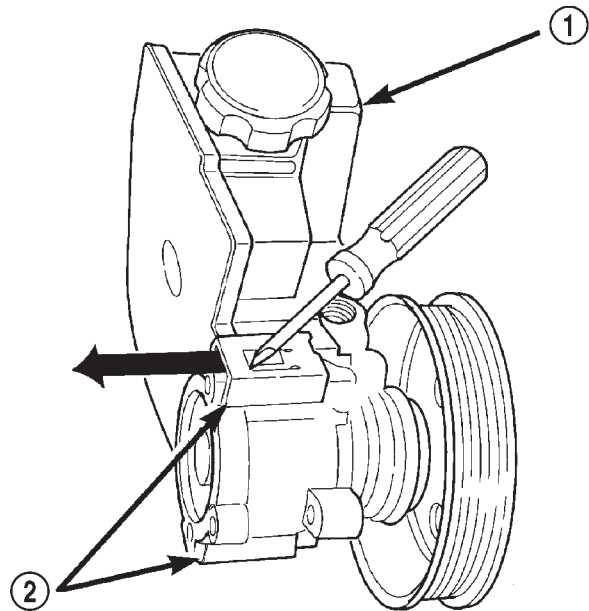

Fig. 6 Pump Reservoir Clips
- (1) Remove power steering pump.
- (2) Clean exterior of pump.
- (3) Clamp the pump body in a soft jaw vice.
- (4) Pry up tab and slide the retaining clips off (Fig. 6).